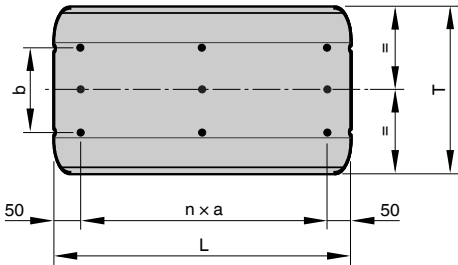

Fig. 26: Position of the screws to fix the splitters
- Use, for example, self-drilling screws (Fig. 26), at least 4.2 x 13 (DIN 7504), to fix the splitters to a sheet metal duct.